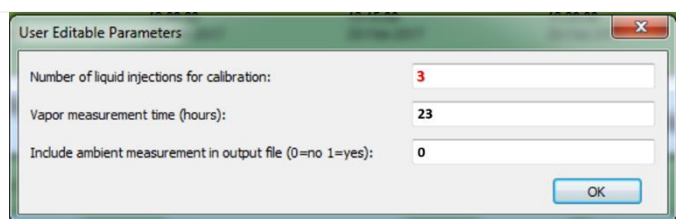

Figure 181. Edit User Editable Parameters.
STEP 22 | Set **User Editable Parameters** to the following parameters and click **OK** when complete (**Figure 181**).